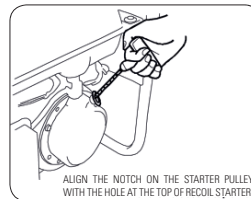

FIGURE 9.7
- D.** Pull the starting cord slowly until you feel resistance. At this point the piston is at its compression stage and both valves are closed. storing the engine at this position will help prevent damages caused due to oxidation. Figure 9.7.